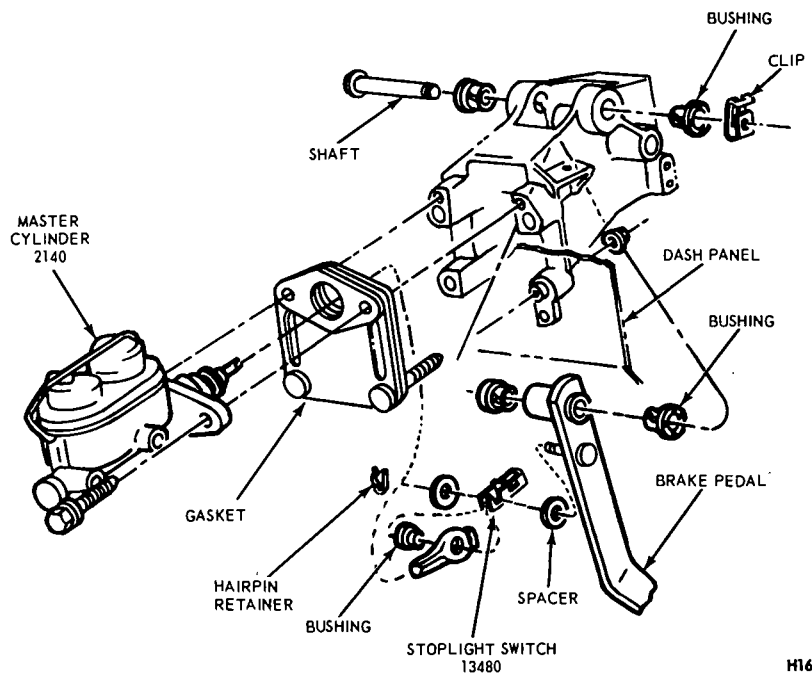

FIG. 10 Master Cylinder and Brake Pedal Installation—Non-Power Brakes—Ford, Mercury and Meteor
Refer to Figs. 10, 11, 12, 13 and 14.
ers and bushing off the brake pedal pin (Figs. 10 and 15).
1. Apply a coating of SAE 10 Engine oil to the bushings and locate bushings in their proper places on the pedal assembly and pedal support bracket (Figs. 10 and 15).
3. Install the inner nylon washer, the master cylinder or booster push rod, and the bushing on the brake pedal pin. Position the switch so that it straddles the push rod with the switch slot on the pedal pin and the switch outer hole just clearing the pin. Slide the switch completely onto the pin, and install the nylon washer as shown in Figs. 10 and 15. Be careful not to bend or deform the switch. Secure these parts to the pin with the hairpin retainer.